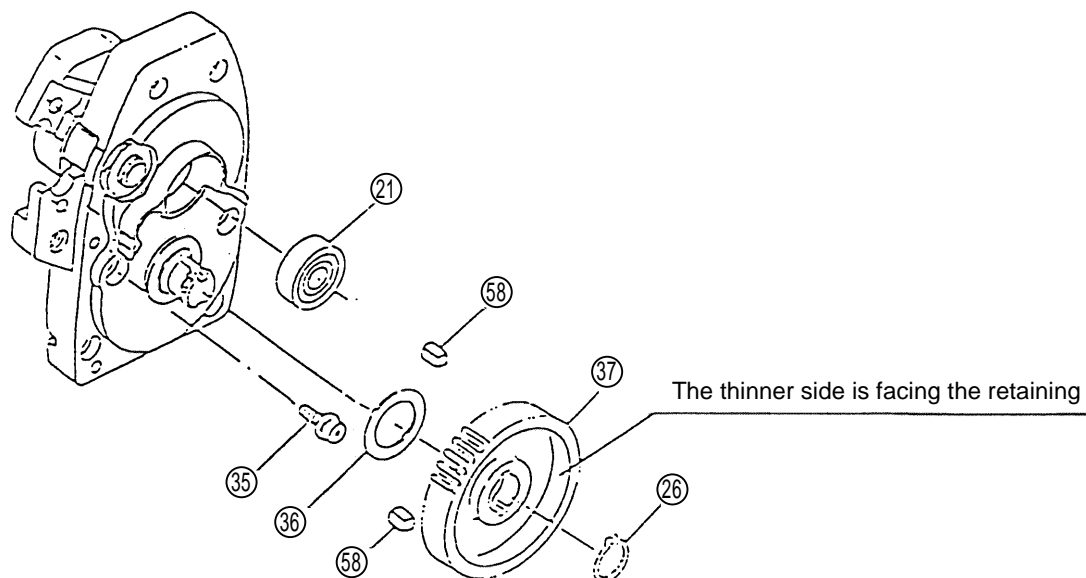

Fig. 20
- As the strength of the three M5 x 12 Hexagon Socket Hd. Bolts ③⑤ that fasten Bracket (B) ④⑤ is very important, particular attention should be given to ensure correct tightening torque. Tighten these bolts with the standard accessory 4 mm Hexagon Bar Wrench ①③. (See Fig. 20)
- Install the 629VVMC2EPS2L Ball Bearing ②① into the Gear Cover ②⑩. (See Fig. 20)
- Assemble Washer (B) ③⑥ and the two 5 x 5 x 8 Keys ⑤⑧ onto the Cam Shaft ⑤⑦, and install the Final Gear ③⑦ while being careful to ensure it is mounted in the proper direction. Then, attach the C-Type Retaining Ring for 15 mm shaft ②⑥ with stop ring pliers. (See Fig. 20) Be sure to apply grease (Hitachi Motor Grease, Code No. 930035, is recommended) to the outer periphery of the Final Gear ③⑦.